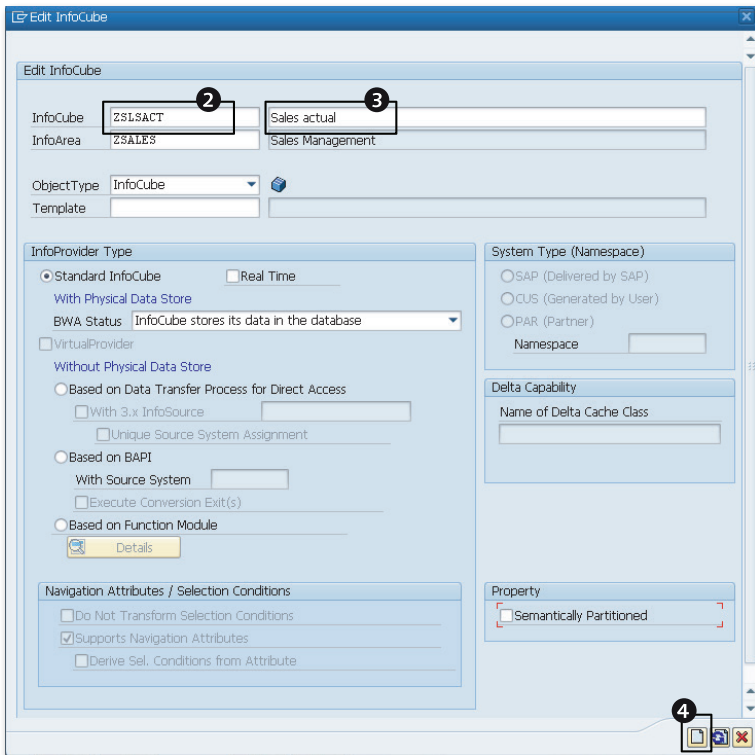

Figure 3.15 Create InfoCube—Part B
4. The EDIT INFOCUBE window appears (Figure 3.15). Enter the technical name of the InfoCube ("ZSLSACT"), and the long description ("Sales actual") into the text fields next to INFOCUBE. Make sure you've selected STANDARD INFOCUBE in the INFOPROVIDER TYPE area. Then click on ENTER (Figure 3.15, ❷, ❸, and ❹).